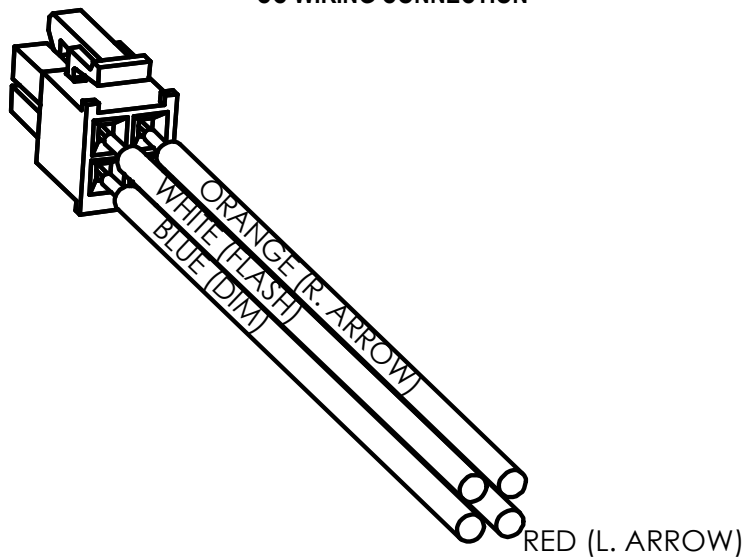

Figure 8
The **Z** Siren can connect directly to any Code 3 Centrally Controlled (CC) Lightbar ArrowStik and some non-Code3 CC Lightbar ArrowStiks using Code 3 harness P/N T56629 (see figure 8). This harness is found in the Harness & Cable Bag P/N T56641. Refer to the wiring diagram on page 13.